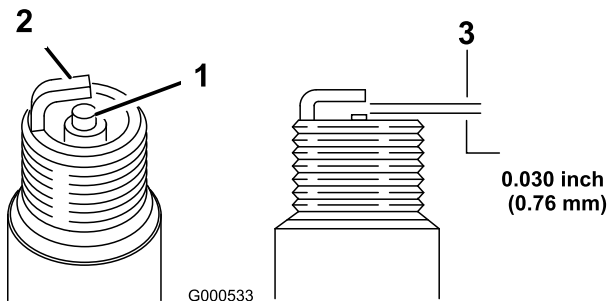

Figure 24
1. Look at the center of the spark plug (Figure 24). If you see light brown or gray on the insulator, the engine is operating properly. A black coating on the insulator usually means the air cleaner is dirty.
2. Check the gap between the center and side electrodes (Figure 24). Bend the side electrode if the gap is not correct.